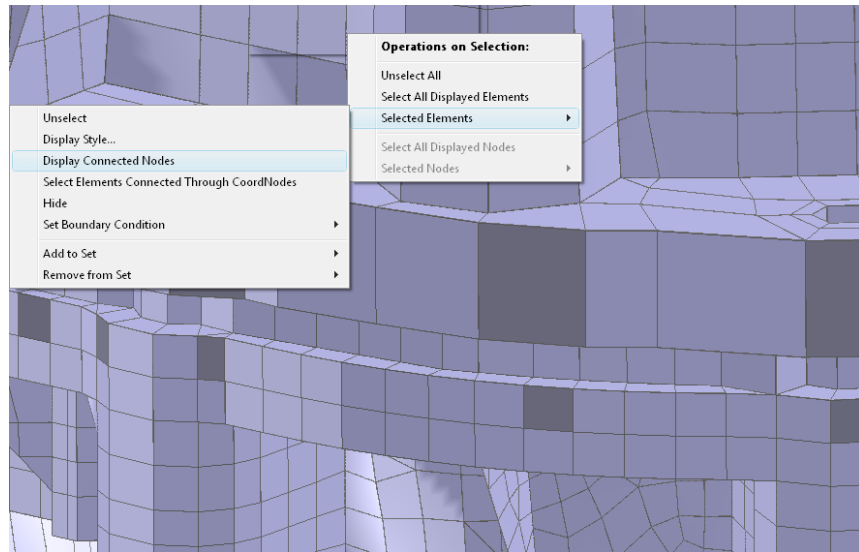

Figure 5.43 Display Connected Nodes for Elements.
- Display connected nodes for the selected elements. Right-click on the selected elements with the *shift-key* held down and select: **Operations on Selection** → **Selected Elements** → **Display Connected Nodes**. See Figure 5.43.